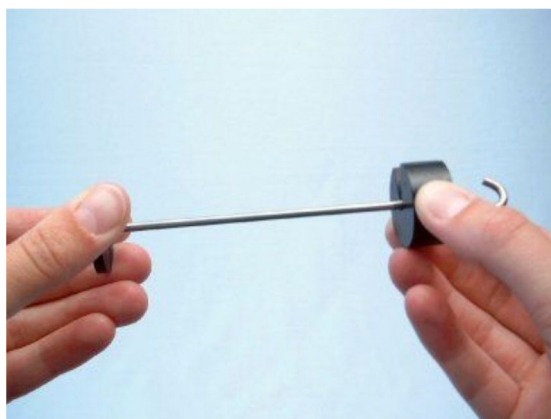

Fig. 5
- Hang the weight holder with a mass of  $m_{tot.} = 100$  g at mark 9 on the right side of the lever. For hanging the slotted weight up the weight holder, slip the slotted weight over the top of the weight holder (Fig. 5).